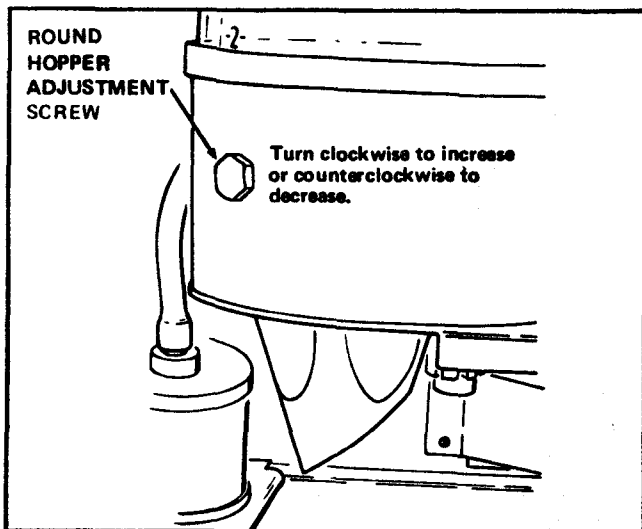

Figure 3-4. Round Hopper Adjustment
- A. Turn the Round Hopper Adjustment Screw **CLOCKWISE** to **INCREASE** the Coffee or Tea Grounds Throw or **COUNTER-CLOCKWISE** to **DECREASE** the Grounds Throw. Turn the Screw approximately two turns. See Figure 3-4.